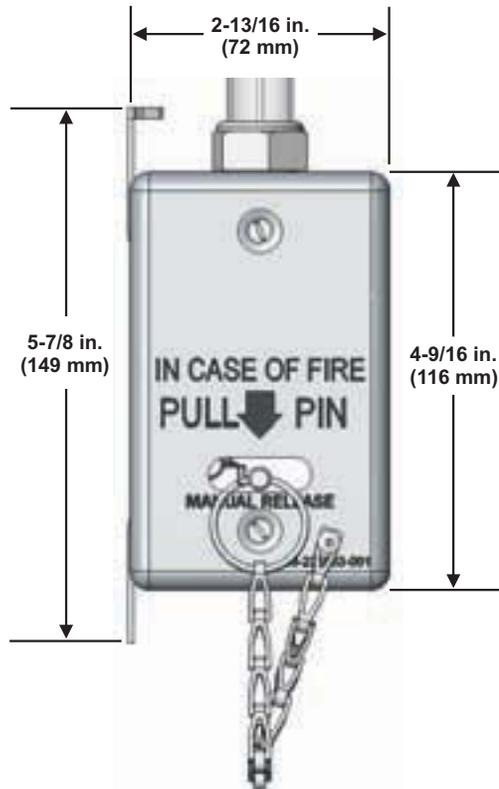

Figure 2-38. Recess Mounted End-of-Line, Remote Manual Release, P/N 9197461
- In-Line Surface Mounted Remote Manual Control (with In-Line Kit), P/N B100030 (Figure 2-38)
— designed for use at the end of the detection line (Figure 2-38).